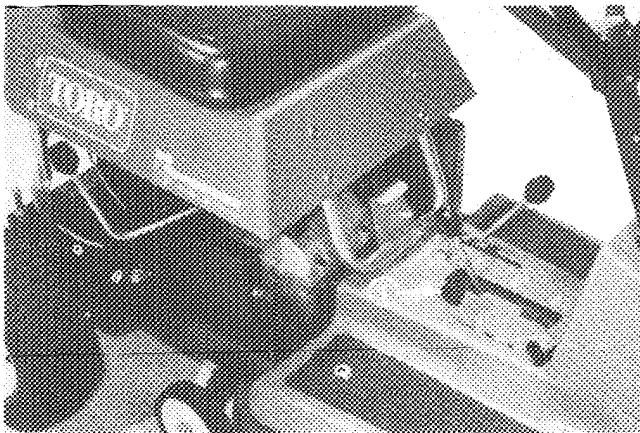
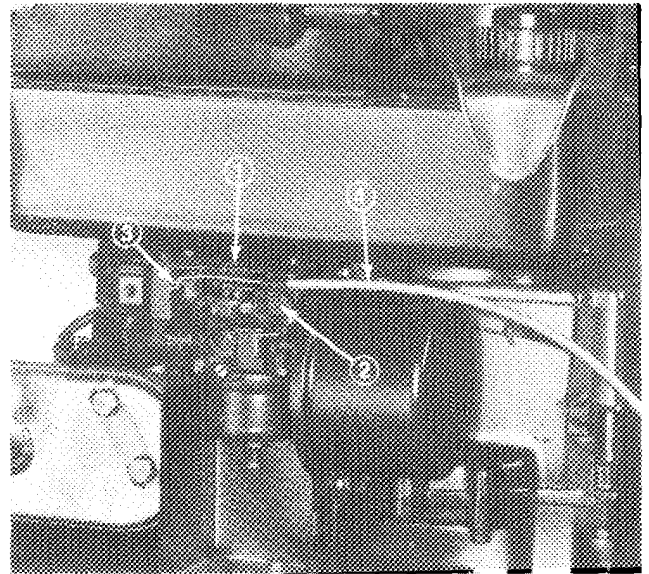

Figure 23
Figure 24
1. Move throttle control into **FAST** detent position (Fig. 23). Hole in carburetor control arm and hole in plate must line up (Fig. 24). If holes line up proceed to step 3. If holes do not line up, an adjustment is required: proceed to step 2.
2. Loosen cable clamp screw and move control arm and cable until holes line up (Fig. 24). When holes are aligned, tighten cable clamp screw to hold cable in place (Fig. 24).
4. Insert element into air cleaner cover. Mount air cleaner assembly on screws and rotate it clockwise. Tighten screws so parts seat together (Fig. 24).